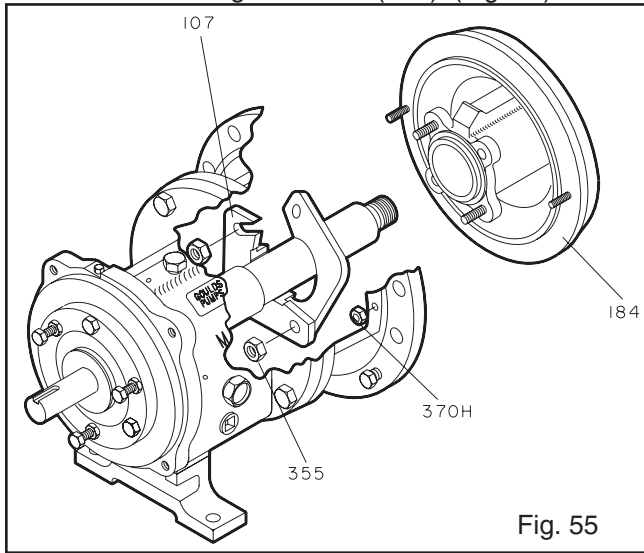

Fig. 55
- Remove gland stud nuts (355), and gland (107).
3. Remove stuffing box cover (184). (Fig. 55).